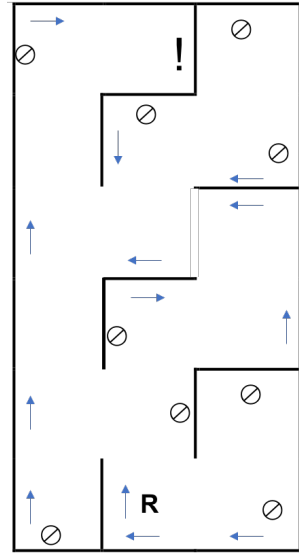

Figure 2
The figure on the right (Figure 2) shows a map of the world that has been created in the lab. For testing, the robot should start in the bottom middle (R), facing south. The goal is in the top middle, facing east. A significant number of signs such as the ones shown in the map will be present to guide the robot to the goal. There will not be a sign on every wall or surface, but all key intersections will have at least one sign.